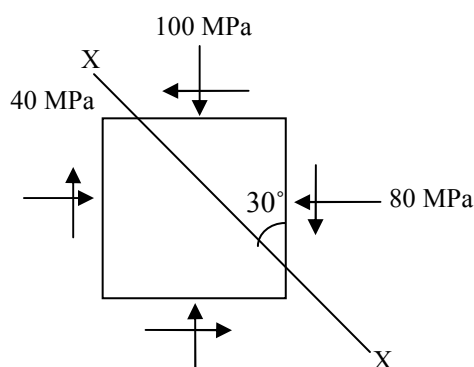

Fig. 3 Q.4 (a) OR
- Q.4 (a)** For an element shown in Fig.3, compute (i) principal stresses and their inclinations (ii) maximum shearing stress and (iii) normal and tangential stresses on a plane x-x making inclination of 30° with the vertical. 07